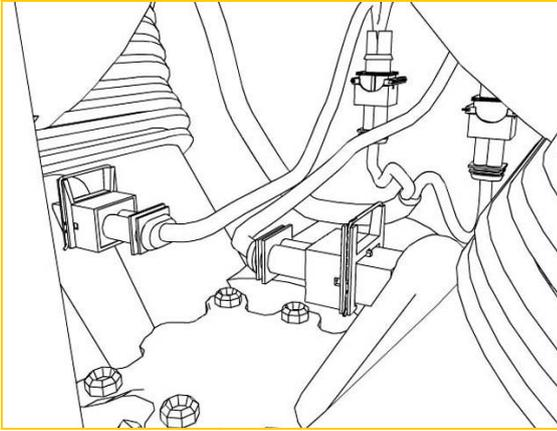

Fig 13
18. Install the horn. (fig 13)